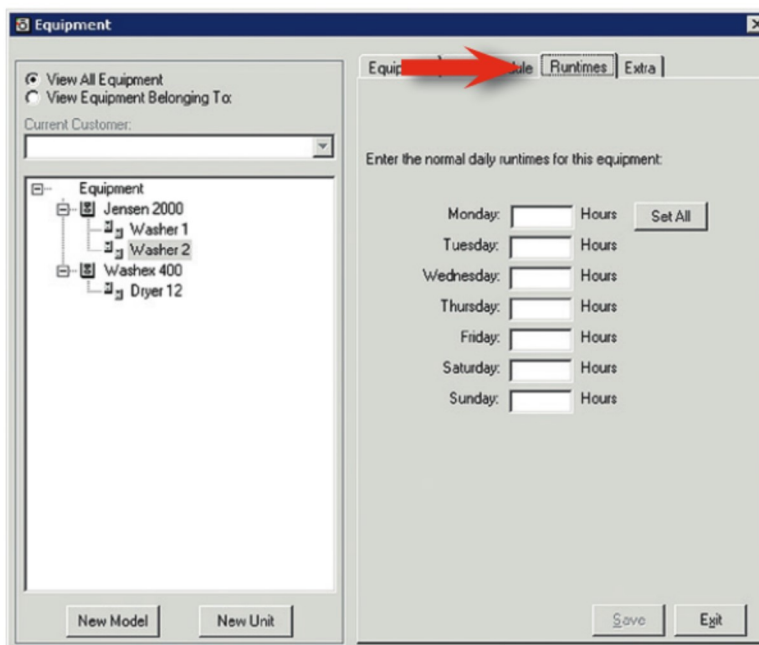

Figure 33. Equipment dialog **Runtimes** tab.
3. Click the **Runtimes** tab (see Figure 33).